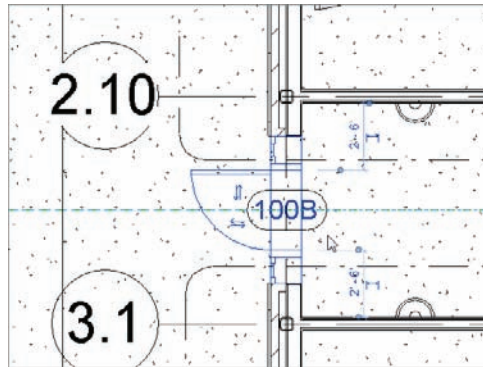

FIGURE 10.34 Copying the first-floor door to the Clipboard and pasting it to Level 2
2. Select door 100B (see Figure 10.34).